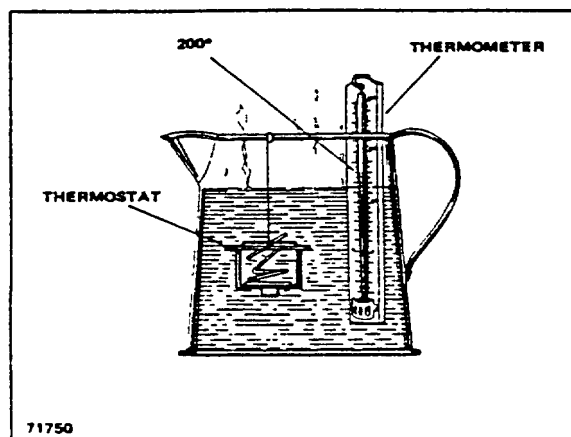

Figure 4-1. Testing Thermostat
6. Suspend and completely immerse the thermostat in a container of clean water (Figure 4-1). Heat the water and stir with an accurate thermometer to check the water temperature.